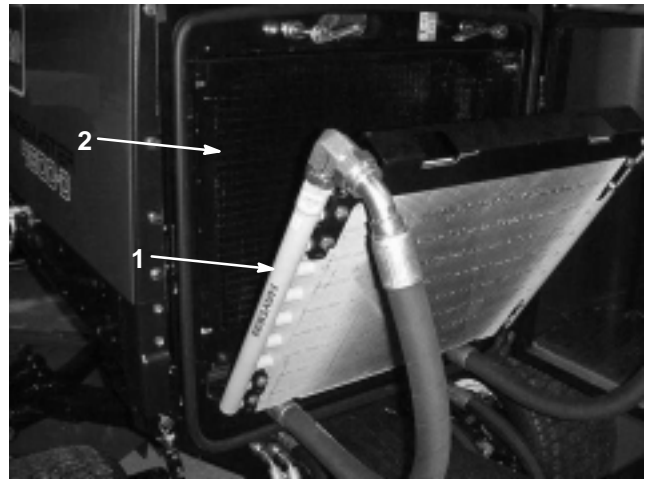

Figure 35
3. Pivot the oil cooler rearward. Clean both sides of the oil cooler and radiator area (Fig. 35) thoroughly with compressed air.